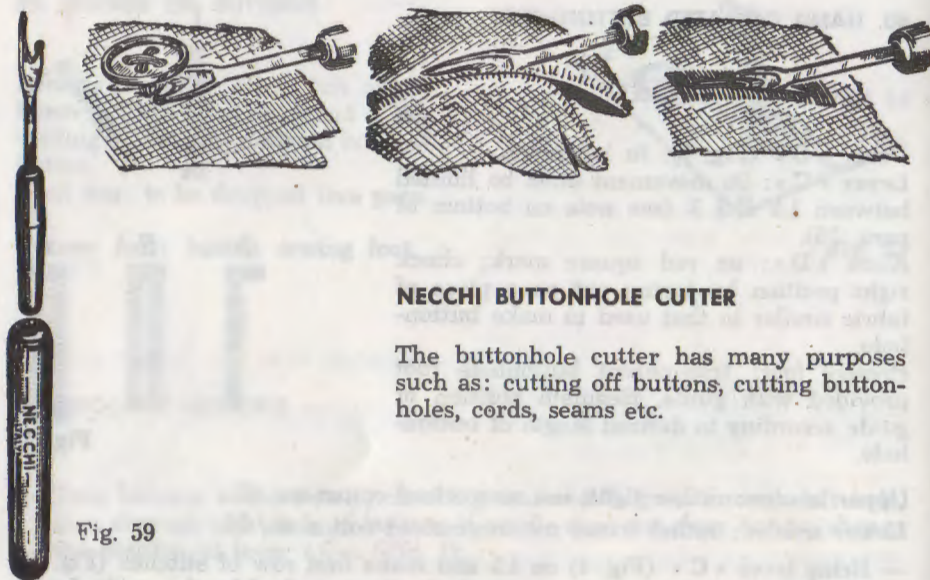

Fig. 59
- Cut fabric between the two rows of stitches with NECCHI buttonhole cutter (Fig. 59).